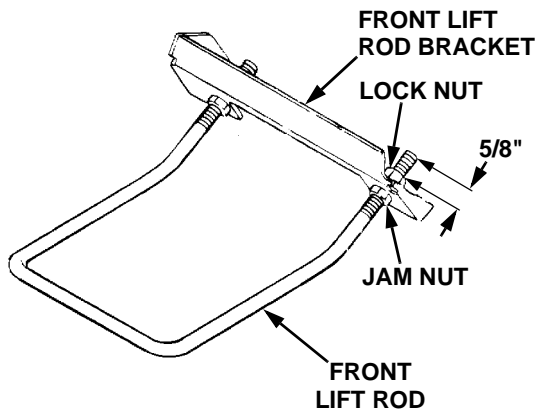

Figure 35
- Initially adjust the front lift rod to allow approximately 5/8 inch of thread to protrude beyond both lock nuts of the front lift rod/bracket assembly (Refer to Figure 35).
- To adjust the downward tilt of the blades, adjustment of the front lift rod is required. Refer to Figure 35 and proceed as follows: